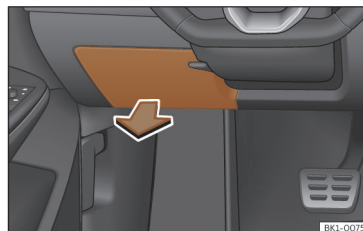

Fig. 179 On the dashboard on the driver side: lid of the fuse box.
- Grasp the back of the cover and remove it in the direction of the arrow >>> **Fig. 179**.